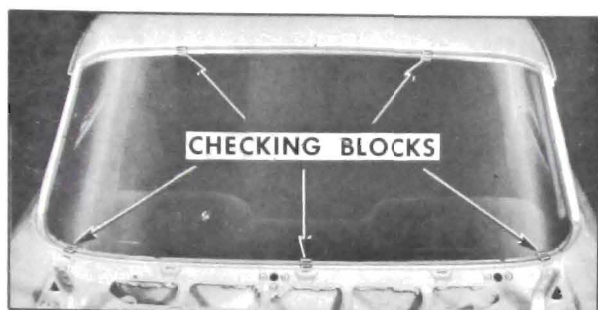

Figure 1-7—Windshield Checking
4. Install five (5) windshield checking blocks to pinchweld flange (Figure 1-7). Position one (1) block over lower pinchweld flange on each side of body twelve inches (12'') inboard from the lower corner of windshield opening. Position one (1) block over upper pinchweld flange midway between center block and each outboard block on lower retaining flange.
NOTE: Windshield checking blocks (J-8942) may be used as shown in Figure 1-7.